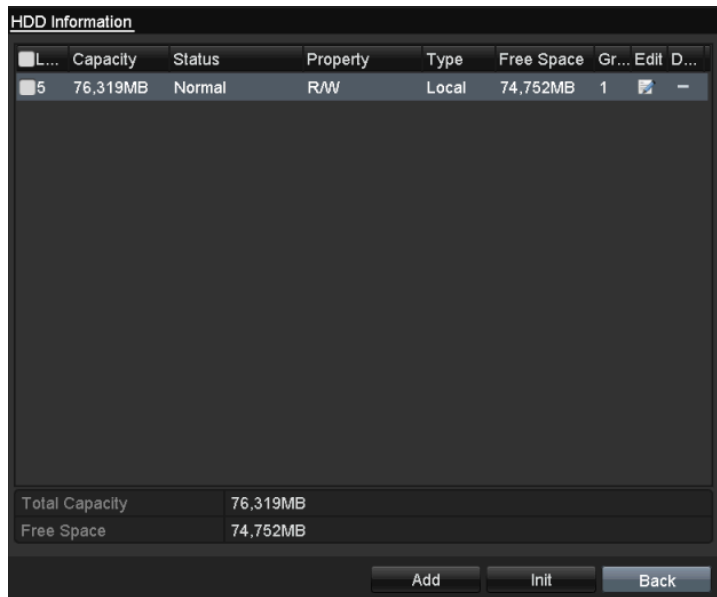

Figure 12. 20 View HDD Status (1)
2. Check the status of each HDD which is displayed on the list, as shown in Figure 12. 20.